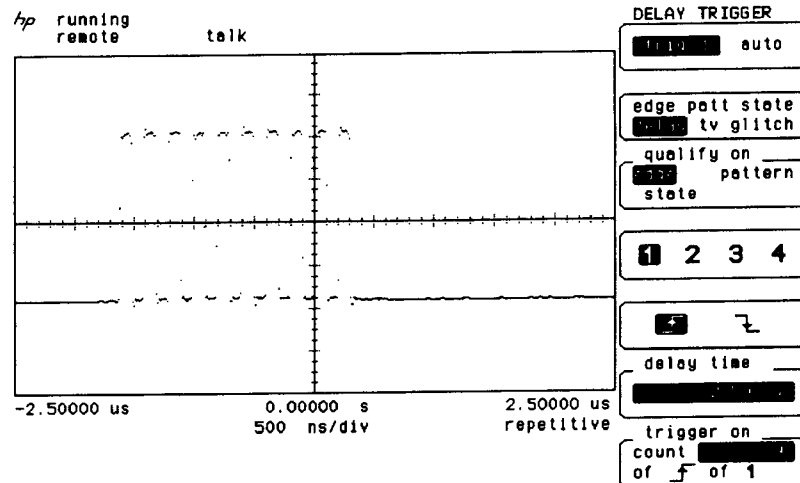

Figure 6-17. Ten Burst Pulse Triggered on Pulse 9
- Change the **trigger on count** key to 9 (see Figure 6-17).